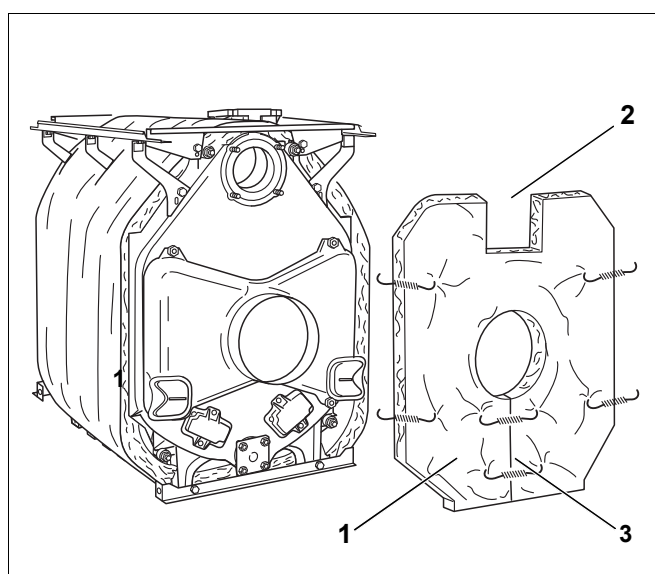

Fig. 46 Installing the thermal insulation on the rear section
- Slide the thermal insulation for the rear section (Fig. 46, **[1]**) onto the flue outlet. Ensure that the cut-out for the boiler return (Fig. 46, **[2]**) points upwards.
- Close the gap below the flue outlet with a spring hook (Fig. 46, **[3]**).